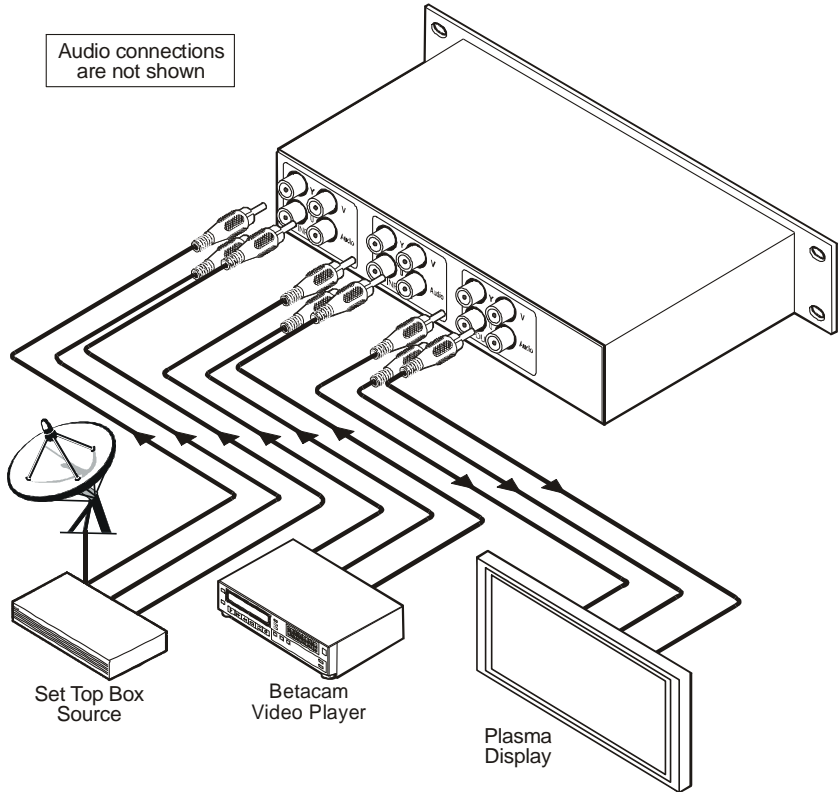

Figure 2: Connecting the VS-21A
To connect your **VS-21A**, as illustrated in Figure 2, do the following2:
- Connect a digital audio source to the AUDIO RCA Connector4 (not illustrated in Figure 2)
- Connect the AUDIO RCA connector to a digital audio acceptor (not illustrated in Figure 2)